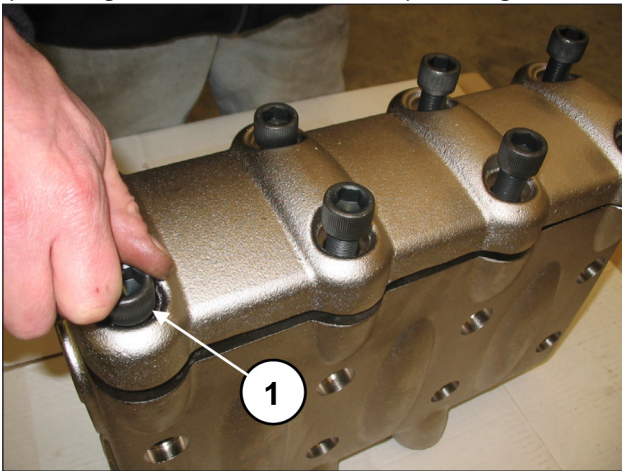
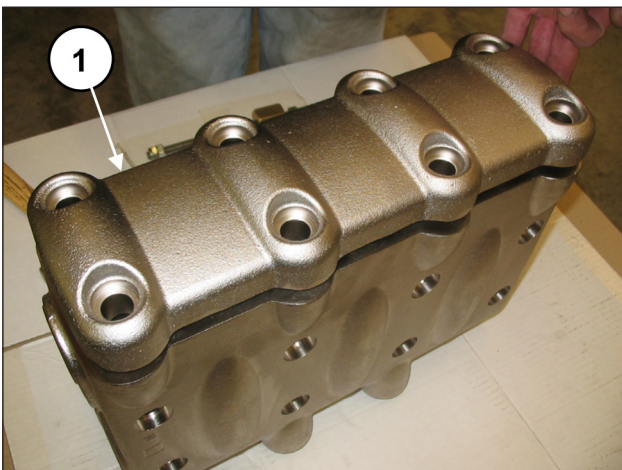

Fig. 106
Fig. 107
Unscrew and remove the 8 M16x55 screws of the valve cover (pos. ①, Fig. 106) and remove the cover (pos. ①, Fig. 107).